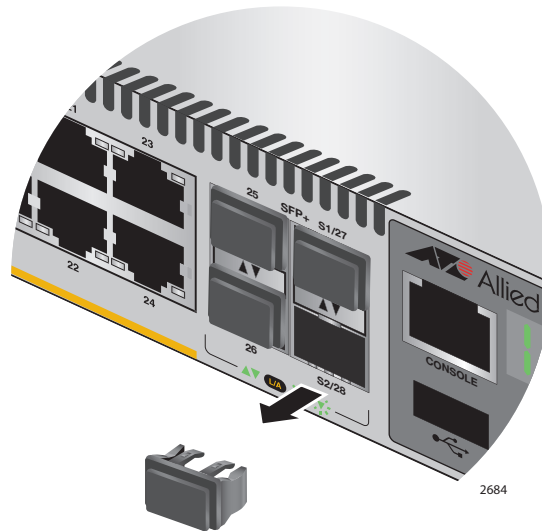

Figure 53. Removing the Dust Plug from the S2 Slot
5. Remove the dust cover from the S2 slot in the next switch in the stack as shown in Figure 53 on page 95.